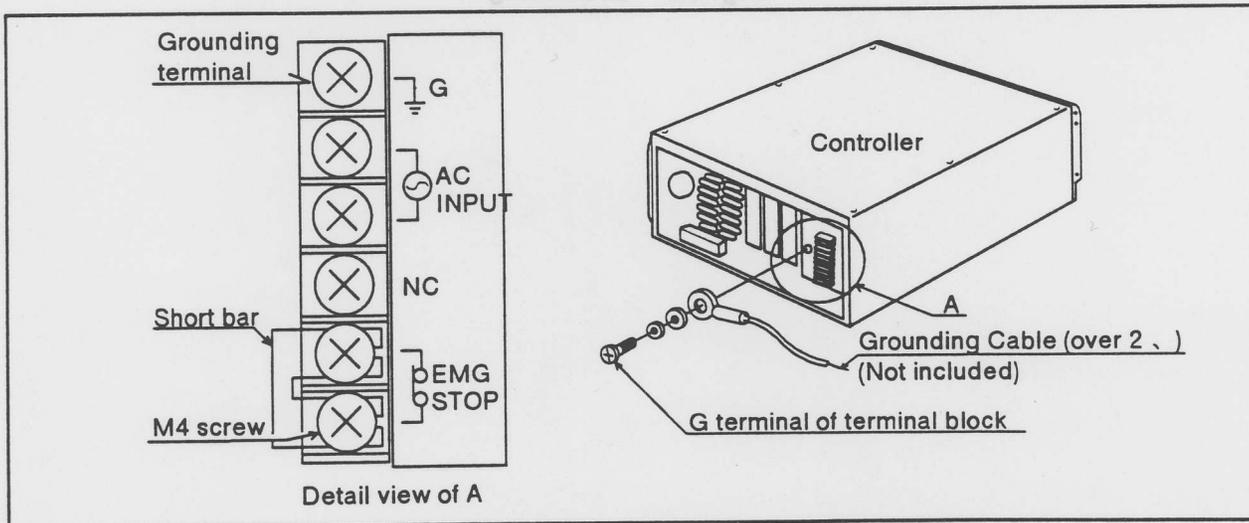

Fig. 3.10 Grounding the controller
- The controller grounds with a ground terminal on rear face. (A cf. figure 3.10)
- (2) The grounding resistance should be less than 100 ohm.
Figure 3.10 shows how to ground the controller.